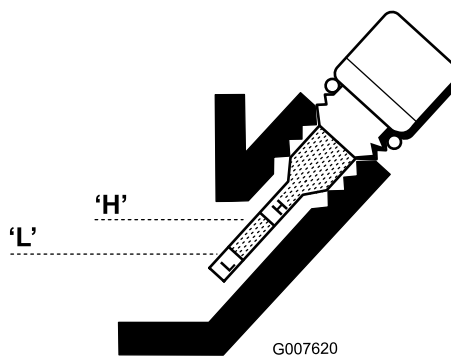

Figure 35
6. If the level is low, add only enough oil to raise the level until it is between the "H" and "L" marks on the dipstick (Figure 35). Check the level of the oil.